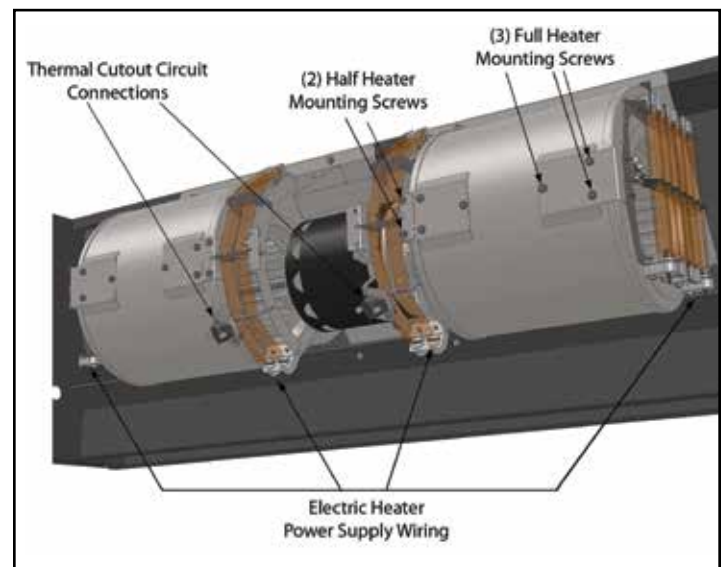

FIGURE 14 - Location of screws
See Figure 14.
2. **See Figure 14.** There are (4) heater assemblies per Blower Module. All have (2) power connections. The "Half" heater assemblies also have (2) connections for the thermal cutout circuit. Label and remove all wires on the heaters to be replaced.
3. The (2) "Full" heaters are each held in place by (3) self-drilling screws that go through the heater mounting bracket into the fan housing. The (2) "Half" heaters are each held in place by (2) self-tapping screws that go through the heater frame into the mounting bracket that is attached to the fan housing. Remove all fasteners on the heaters to be replaced.